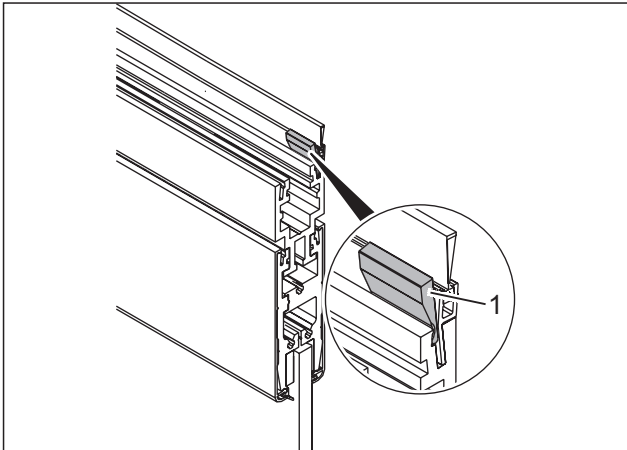

Fig. 35 Removing the wedging
4. Remove the wedging (Fig. 35/1) and save for later use.